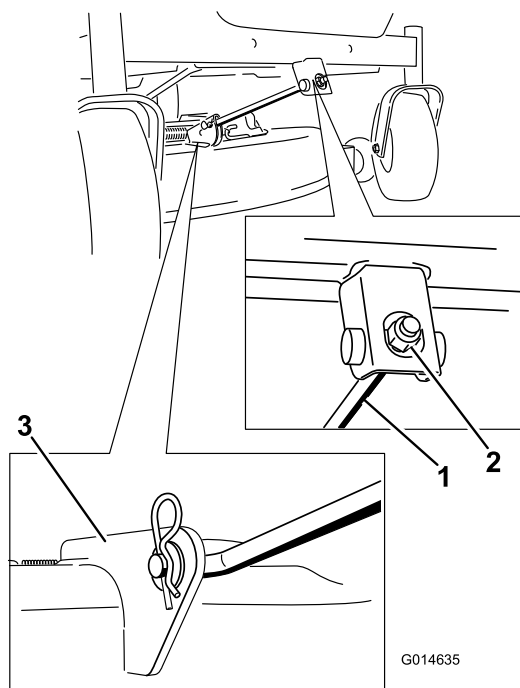

Figure 54
- Remove the hairpin cotter from the front support rod and remove the rod from the deck bracket (Figure 54). Carefully lower the front of the mower deck to the ground.
- Attach the front support rod to the mower deck with the clevis pin and hairpin cotter (Figure 54).